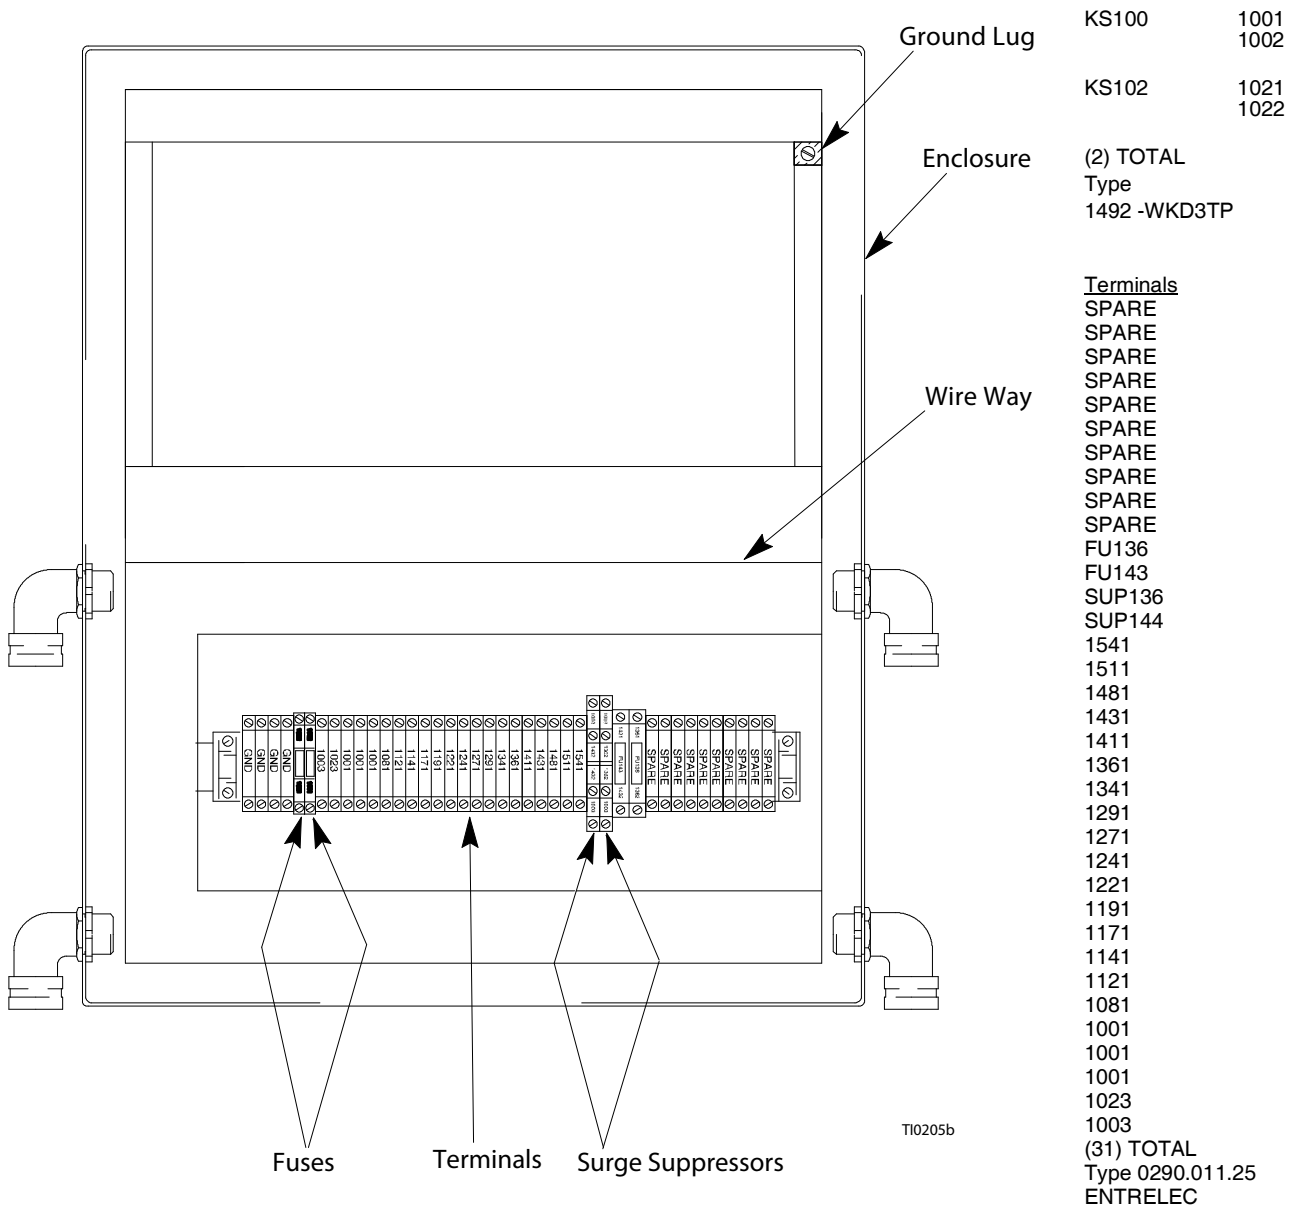

FIG. 19
1. Shut off power to the Junction Box Panel (H).
2. At the Junction Box Panel (H), remove the cover from the Junction Box Panel.
3. Locate the failed fuse on the terminal strip. Reference FIG. 19 for the fuse terminal identification.
1. Press both ends of the new fuse evenly into place in the fuse holder. See FIG. 19.
2. Reinstall the cover on the Junction Box Panel (H).
3. Reapply power to the Junction Box Panel (H).
2. At the Junction Box Panel (H), remove the cover off the Junction Box Panel.
3. Locate the failed surge suppressor on the terminal strip. Reference FIG. 19 for the surge suppressor terminal identification.
1. Install the new surge suppressor into place on the terminal strip using the two screws. See FIG. 19.
2. Remove the cover from the Junction Box Panel (H).
3. Locate the pressure switch assembly (202) that is attached to the mounting plate (201) below the Junction Box Panel (217). See FIG. 19.
4. Disconnect the 5-pin cord (211) from the pressure switch assembly (202). For wiring information, refer to the **Electrical Diagram** on page 91.
5. Disconnect the end of the lead wire from the pressure switch assembly (202). Leave the other end of the lead wire connected to the valve assembly bank (203).
- Remove the two cap screws, the lock washers, and the pressure switch assembly (202) from the mounting plate (201).